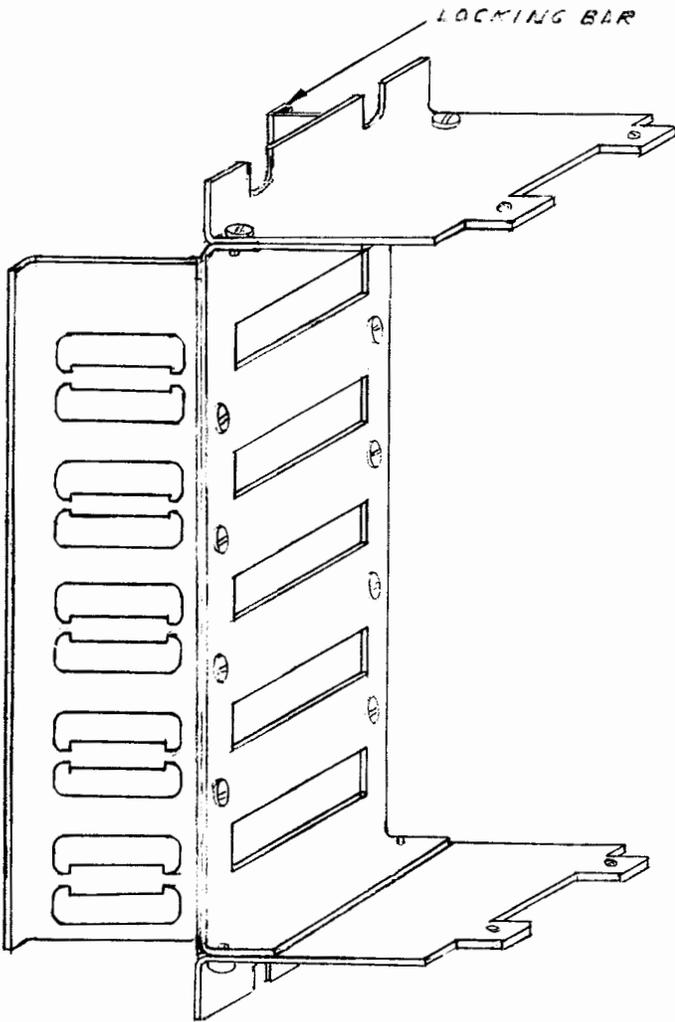

FIGURE 7A
- Figure 7A shows the position of the mounting brackets for mounting into a KTU rack. The locking bar should be on the left so the components are above the printed circuit board.